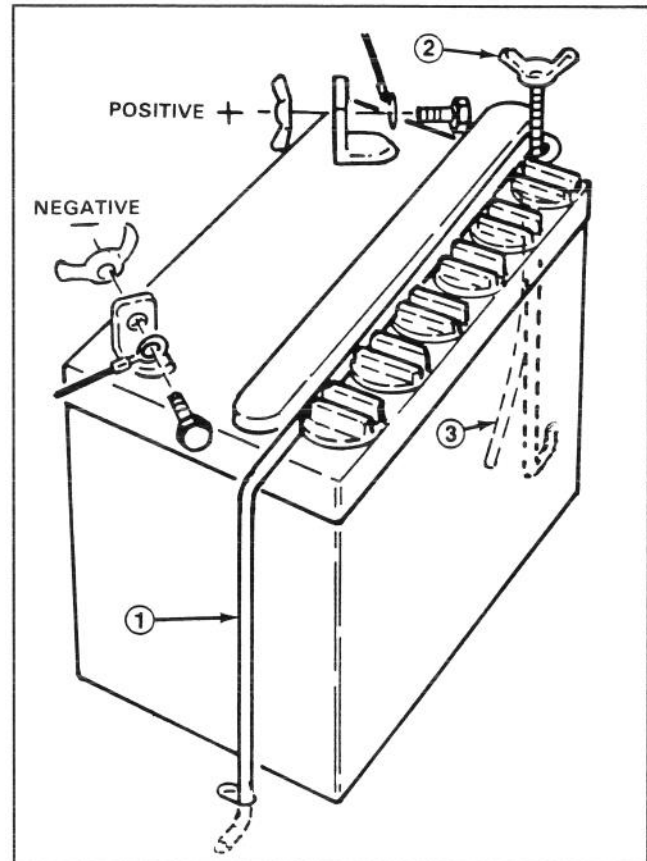

Figure 3
2. Remove the wing nut securing battery hold downs to rider chassis. (Fig. 3).
8. Reinstall the battery with terminal posts toward the rear of the machine and vent tube thru hole in the frame (Fig. 3).
10. Reinstall the positive cable to the positive (+) terminal and the negative cable (black) to the negative (-) terminal of the battery and secure with capscrews and wing nuts (Fig. 3).